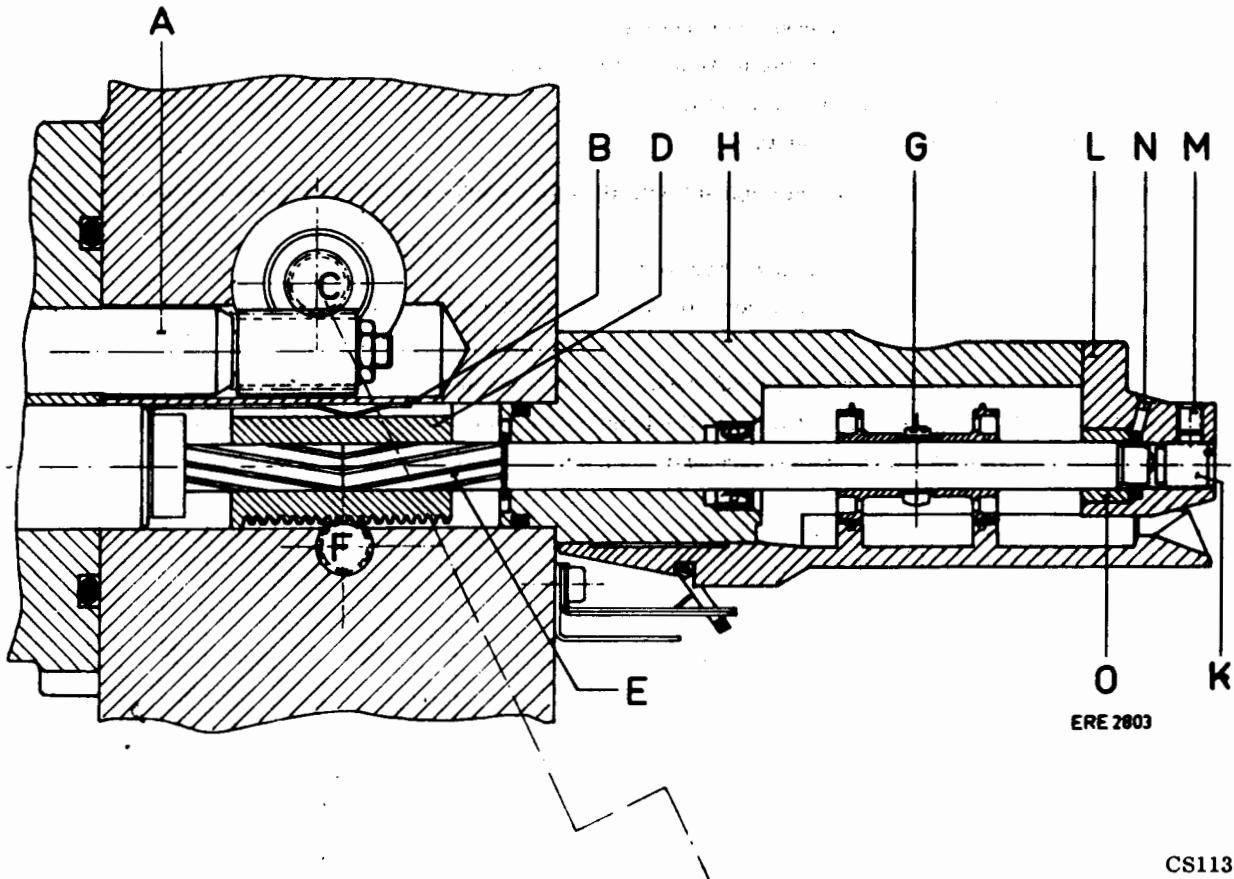
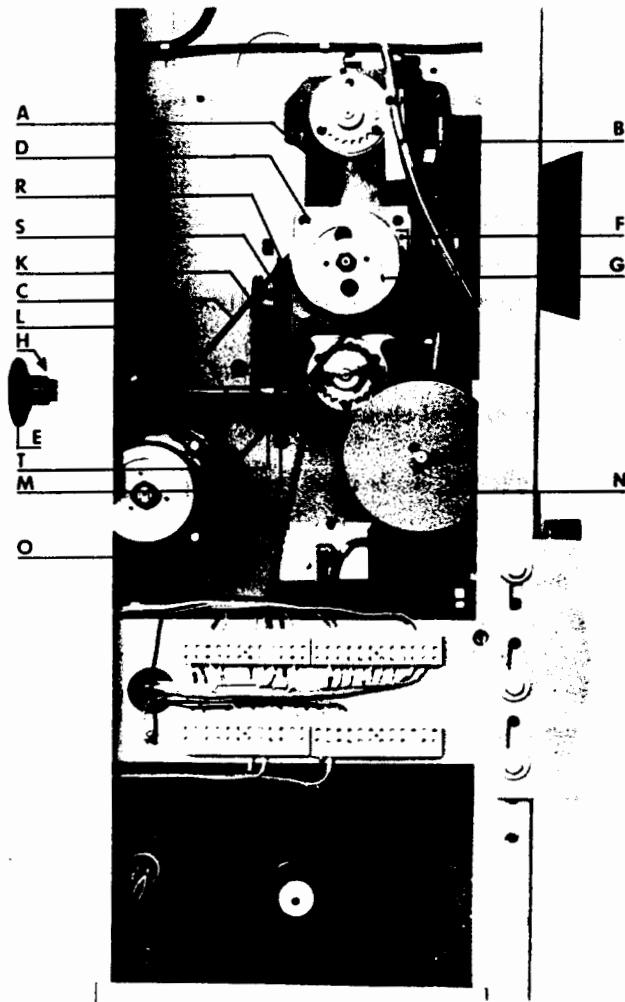

Fig. 3
Fig. 4
- . Drain the oil from projector mechanism A, Fig. 4 via transparent plastic tube B, Fig. 4.
- . Remove the motor belt C, Fig. 4.
- . Loosen the 4 screws D, Fig. 4.
- . Turn framing knob E, Fig. 4 as far as possible clockwise.
- . Carefully pull intermittent unit F, Fig. 4 out of the projector mechanism.
Ensure that leaf spring B, Fig. 3 does not drop into the projector.
- . If framing bushing D, Fig. 3 remains in the projector mechanism, disassemble this mechanism as follows.
- . Position leaf spring B, Fig. 3 in the groove, bent part down.
- . Subsequently, slide the intermittent unit into the projector mechanism and simultaneously turn the framing knob E, Fig. 4 so that the teeth of the framing bushing engage the teeth of framing shaft F, Fig. 3.
- . After framing shaft F, Fig. 3 has engaged framing bushing D, Fig. 3 turn the flywheel G, Fig. 4 until the shaft of the intermittent unit is in an intermittent position (approx. mid position).
- . Press the intermittent unit as far as possible into the projector mechanism, simultaneously turning the flywheel G slightly to the left and to the right until the teeth of intermittent sprocket shaft E, Fig. 3 engage the nylon bushing of framing bushing D, Fig. 3. This is facilitated by turning the intermittent sprocket. Moreover, damage to the teeth is prevented.
- . Now press the intermittent unit completely into the projector mechanism. Ensure that the teeth of the sprocket shaft A, Fig. 3 can properly engage the teeth of the main shaft B, Fig. 18.
- . Turn the four screws D, Fig. 4 in (do not tighten).
- . Check the position of ring H, Fig. 4. The white line on this ring should correspond to the white dot on the projector housing, while the framing mechanism should be in the mid-position.
- . Check that the intermittent unit runs smoothly, also in the two extreme positions of the framing mechanism. If it does not in the extreme pos. turn framing knob E, Fig. 4 slightly back.
Framing bushing D, Fig. 3
Intermittent sprocket Fig. 3, page 10Disassembling
Pivot screw K for sprocket shaft, Fig. 3, page 10Adjusting
Hold the measuring gauge against the slide of the intermittent sprocket and turn framing knob E, Fig. 4 to and fro. The deflection on the gauge should be 0.01 mm (0.000393").
Bearing bushing O for sprocket shaft, Fig. 3, page 10Disassembling and assembling
Framing shaft, inner, Fig. 4, page 11Disassembling
Framing shaft, outer L, Fig. 4, page 11Disassembling
- . Remove flywheel N, Fig. 4, page 11
- . Adjust intermittent sprocket with knob E, Fig. 4 to the beginning of an intermittent cycle.